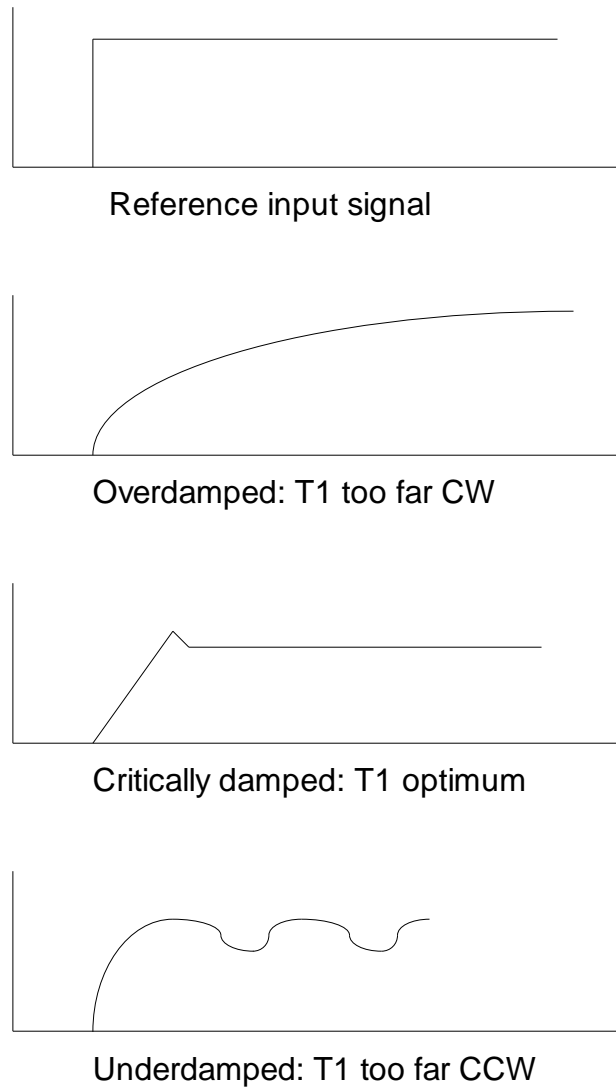

Fig. 8.1
- Apply power to the amplifier, and while monitoring the tachometer signal, gradually adjust the COMP trimmer from the CW toward the CCW position. Optimum response (critically-damped) should be achieved at some position before reaching full CCW on T4. Fig 8.1 illustrates the types of waveforms observed for various setting of T4.
- Apply power, and while monitoring the tachometer signal, gradually increase the value of the box resistance until optimum response as depicted in Fig 8.1 is achieved.